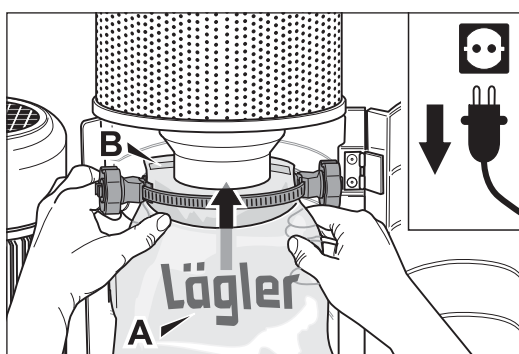

Fig. 48 **Make sure the dust bag is in the correct position:**
- 8 Slip the opening of new dust bag and the MultiClip over the neck of the dust separator. The side of the dust bag with the print on it must be facing you (fig. 48).